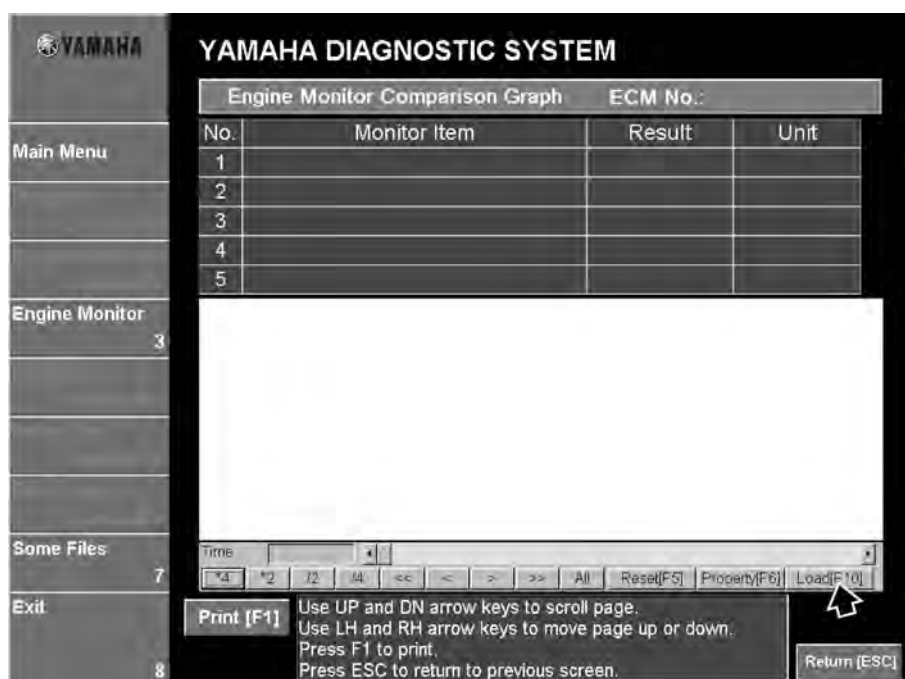

Fig. 61
4. Click the **Load [F10]** button, or hit the F10 key. (Fig. 61)